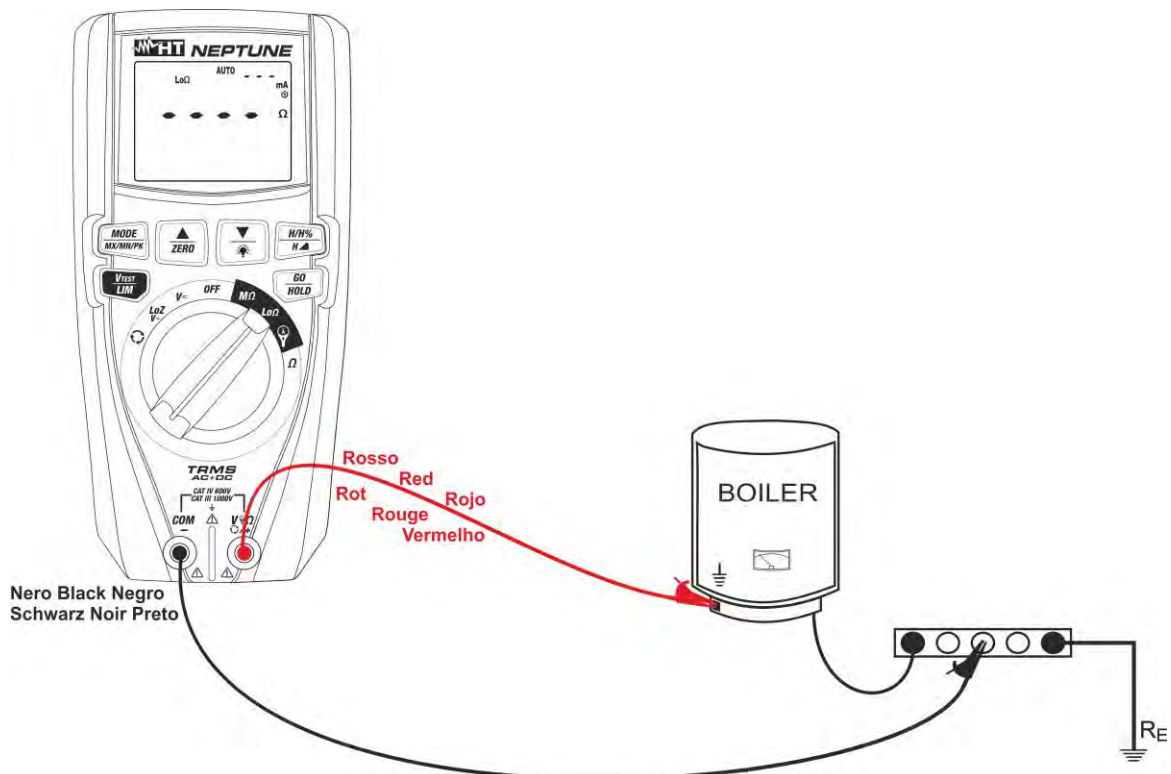

Fig. 25: Use of the instrument for continuity test in AUTO mode
7. Insert the red lead into input terminal **V Ω +** and the black lead into input terminal **COM-**, and connect the instrument to the system to be tested (see Fig. 25).